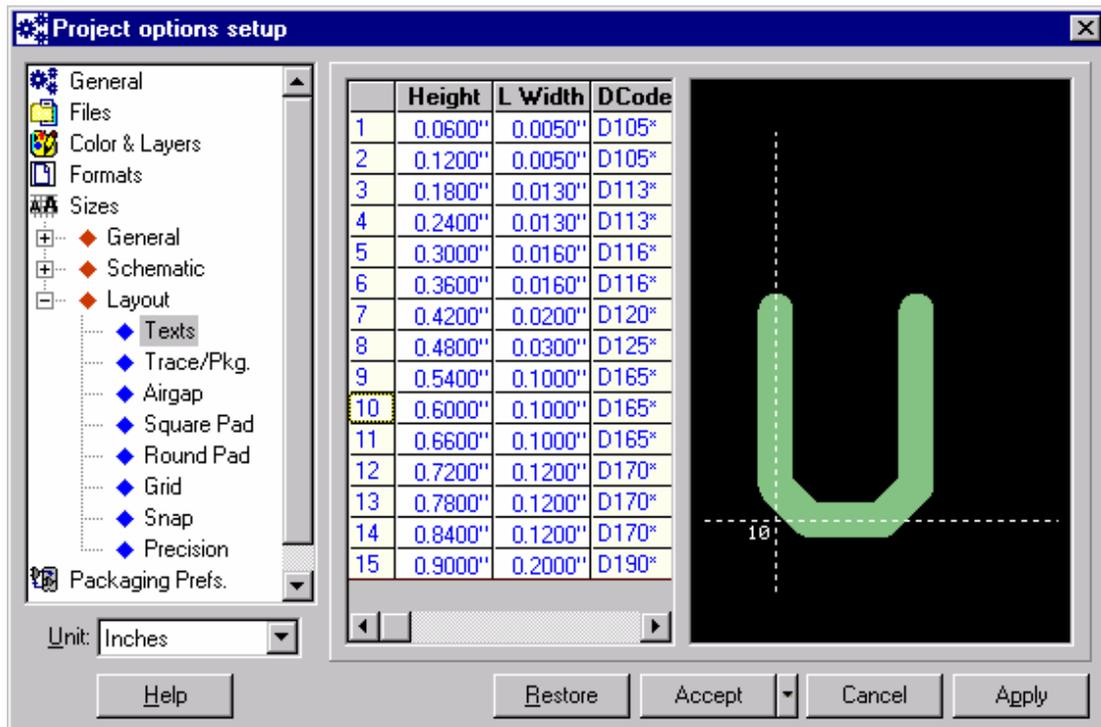

Fig: 2.11 Layout option
**Layout Text:** Sets the height and line width of layout texts. A set of default values is displayed on selecting this. Double click on the values to make any change. The change is visible in the Preview part of the window immediately. Given below is a brief description of the parameters provided in the Fig.2.11.